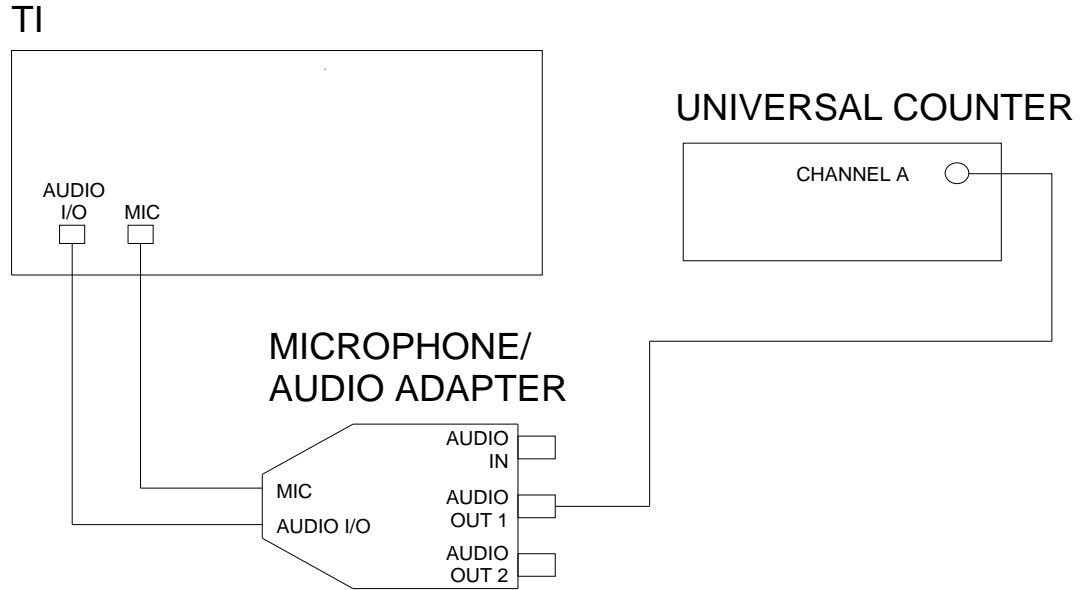

Figure 10.
4.28.2 Connect equipment as shown in Figure 10.